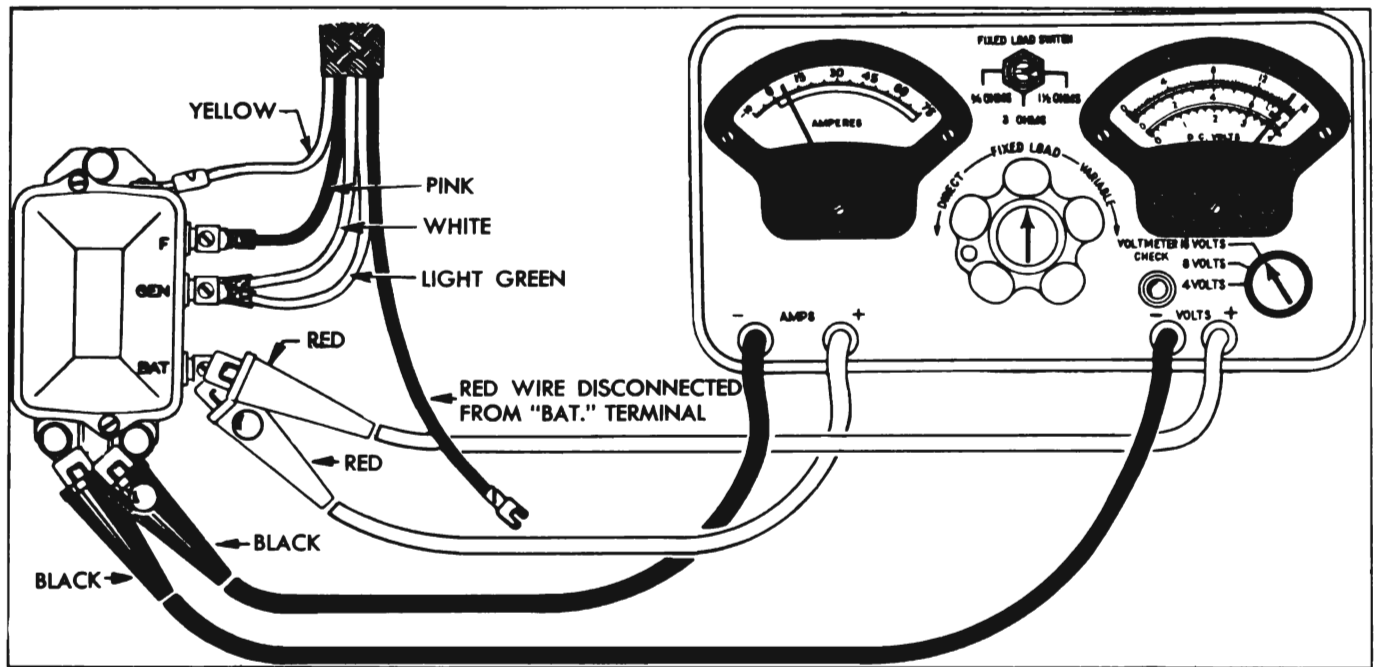

Figure 10-15—Current Regulator Test Connections—Sun Tester
18. Remove the  $\frac{1}{4}$  ohm resistor. CAUTION: Do not allow disconnected battery (red) wire to touch ground on car. Turn tester control knob to "FIXED LOAD" position. Connect the red (+) ammeter clip to the "BAT" terminal of the regulator and connect the black (-) ammeter clip to ground on base plate of regulator. See figure 10-15.